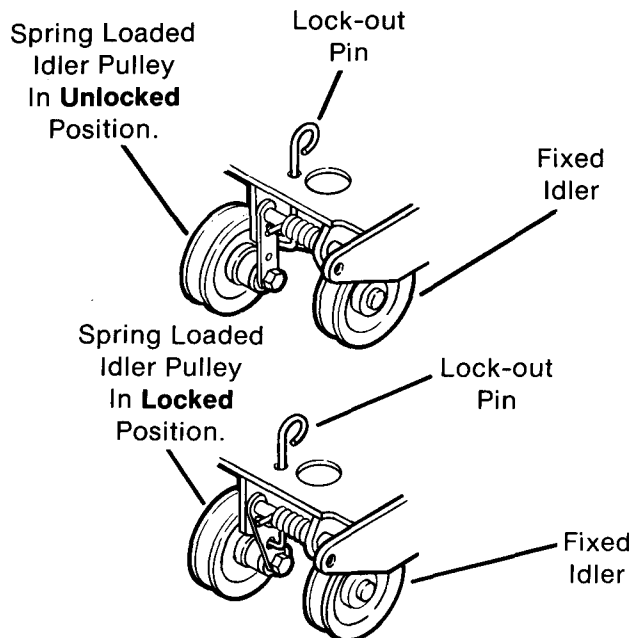

FIG. 20
- B. Unlock spring loaded idler pulley (if lock-out pin in locked position) (Fig. 20) by pushing pulley back and removing lock-out pin. Release idler pulley.
- a. Push spring loaded idler pulley back and lock in this position using the lock-out pin. (Fig. 20) This will take tension off the drive belt.
- c. Slide fixed idler pulley down towards bottom of slot until all slack is removed or until spring loaded idler pulley is directly opposite the fixed idler pulley when spring loaded idler is in the unlocked position. (Fig. 20)
- e. Release spring loaded idler pulley by removing lock-out pin from pulley arm. Replace lock-out pin in hole in idler shaft mounting bracket. (Fig. 20)